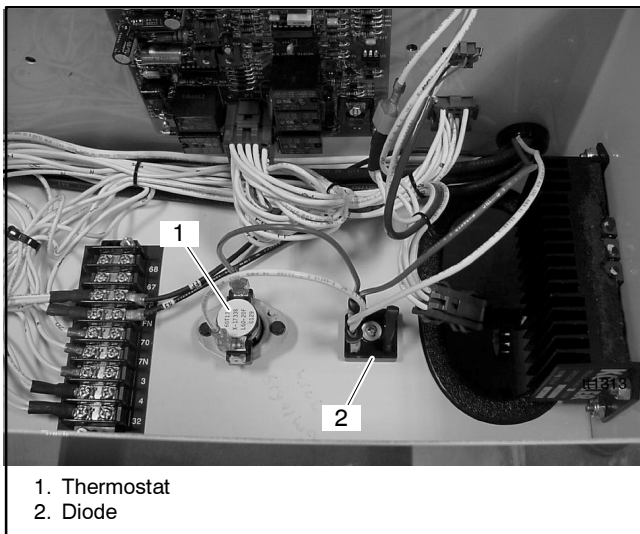

Figure 18 Thermostat and Diode, Installed
3. Mount the diode, GM21283 (if required), using one #6-32 screw X-49-6, washer X-25-48, and nut X-6210-3. See Figure 18.
4. Mount the thermostat using two #8-18 self-tapping screws, X-794-2, through the two 2.78 mm (0.109 in.) holes. See Figure 18.